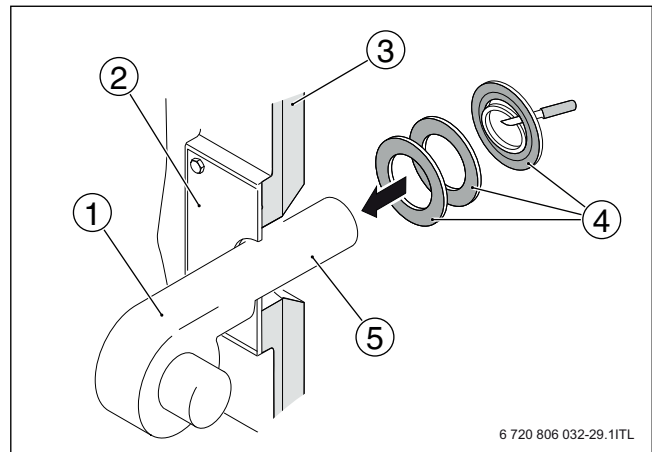

Fig. 21 Fitting the burner
- Screw burner (→ Fig. 21, [1]) to the burner plate [2].